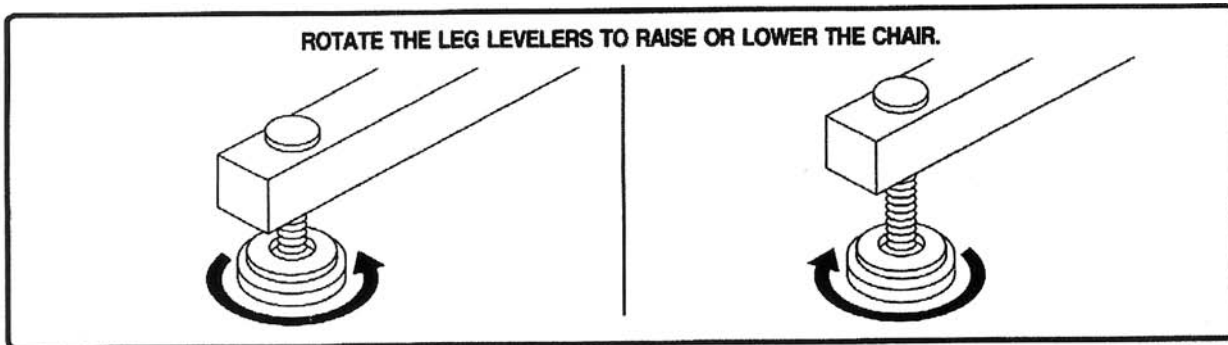

Figure 3.2 Leg Leveler
Leg Leveler: Manually rotate up or down in order to stabilize the chair before use (Fig 3.2).
2. Adjust the leg Leveler to stabilize the lift chair (Fig 3.2)